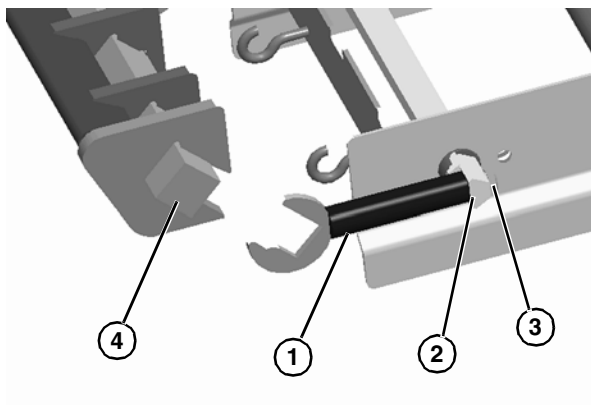

Figure 22
1. Place the nose bar idler shafts (**Figure 22, item 1**) against the holes in the hex shaft assembly (**Figure 22, item 2**) and secure each with a bolt (**Figure 22, item 3**).
2. Attach the nose bar transfer post (**Figure 22, item 4**) to the nose bar idler shafts.